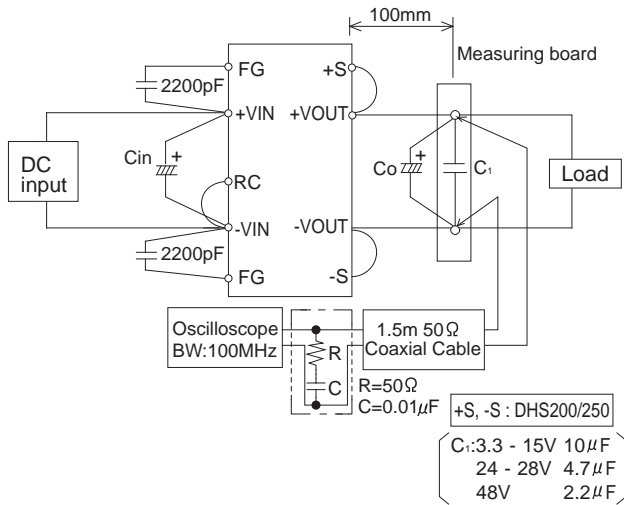

Fig. 3.5 Method of Measuring Output Ripple and Ripple Noise
- The specified ripple and ripple noise are measured by the method introduced in Fig. 3.5.